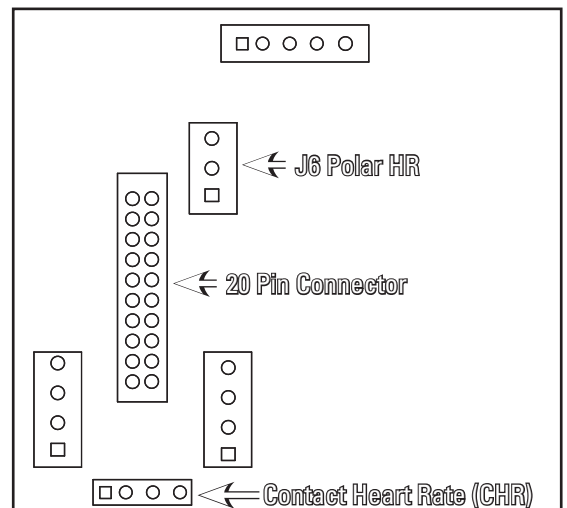

Figure 11
**6-2** Remove CHR and J6 Polar HR cables from the back of the console connected to the PC board (see Figure 11).